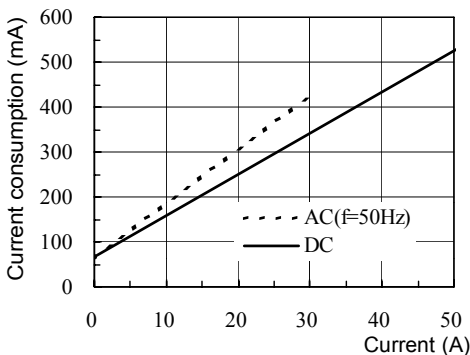

Fig.1
- (1) Check that the system is safe, and that the preparations described in the preceding section have been carried out.
- (2) Pull the sensor opening lever, so that the sensor head opens.
- (3) Align the sensor so that the current direction indication corresponds to the direction of current flow through the conductor to be measured, and clamp so that the conductor is in the center of the sensor aperture.
- (4) Press the opening lever on the sensor head until the "UNLOCK" indication disappears, and check that the opening lever is firmly locked and the sensor head securely closed.
- (5) It is now possible to monitor the current waveform. The output rate of the 3276 is 0.1 V/A. The current sensitivity can be derived from the voltage sensitivity of the waveform measurement instrument. For example, if the voltage sensitivity is 10 mV/division, the current sensitivity is 100 mA/division.
- The current consumption of clamp-on probes depends on the current to be measured. Confirm that the total current consumption of the clamp-on probes does not exceed the rated output current of the 3272. See Fig. 1.